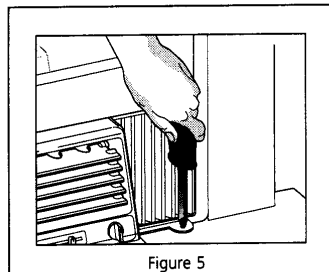

Figure 5
- Drive 3/4" (19 mm) locking screws through frame holes and into window stool (Figure 5). **Note:** To prevent window stool from possible splitting, drill a 1/8" (3 mm) pilot hole before driving screws.